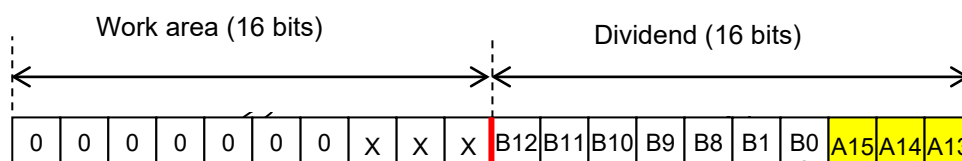

Figure 3.6 The Third Execution Result
(5) The work area and dividend that are results of the 3rd shift and subtraction are shown in Figure 3.6.